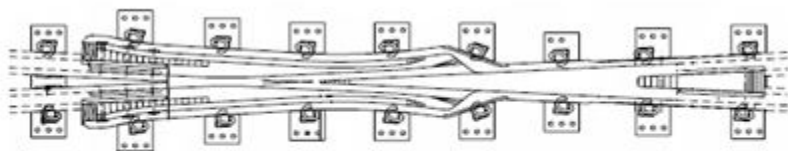

Figure 107H *Solid Manganese Self-Guarded Frog*
- Solid Manganese Self-Guarded Frog (SMSG) - The SMSG frog has a body cast in one piece from manganese steel. A raised guard cast into the body protects the frog point from passing wheels, making the installation of a guardrail on the opposite rail unnecessary. (Refer to Figure 107H)